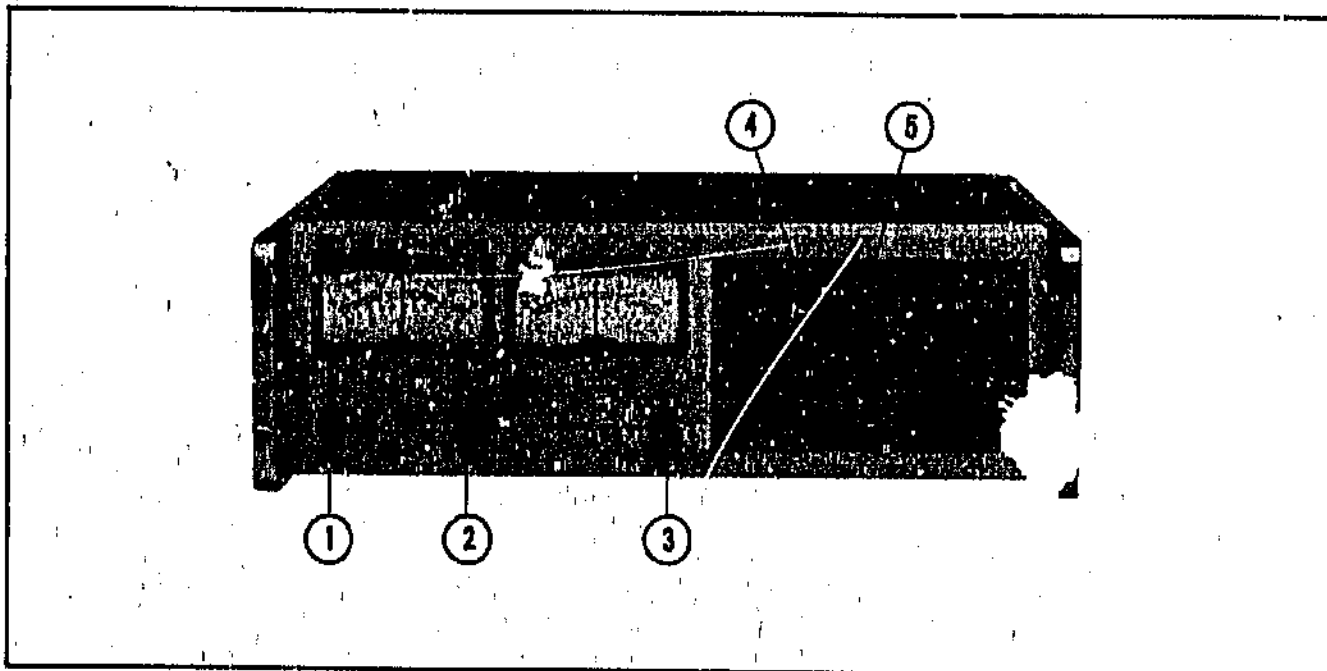

Figure 3-2. Operating Controls and Indicators
3-4 To turn on the unit, set the LINE switch (Item ① in Figure 3-2) to ON. The pilot light directly above the LINE switch should light. Fuse 1 (2A at 115Vac or 1A at 230Vac) protects the main power supply.
3-18 With the STORAGE switch (4) (Figure 3-2) in the STORE position, the voltage, sign, range, and current latch program data are stored when the gate is received from the computer. In the DISABLE position, indicator DS1 (5) lights and the data are processed as soon as they are received.